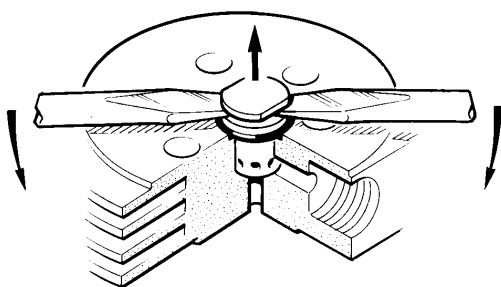

Abb. 39 Removal of 3rd stage pressure valve
- Remove two captive nuts (1) and spring-washers (2).
- Remove plate (3).
- Remove valves (4) and (7) using two screw-drivers as shown in Abb. 39.
- Assemble in reverse sequence. Position spring-washers with curved side facing upwards. Fasten nuts so that plate (3) is parallel to the valve head. Torque with 10 Nm (1 kpm).
- Unwind torque stud (1) a couple of turns.
- Remove allen screws (7), take off valve head cover (6).
- Put two screwdrivers into the groove of pressure valve body (Abb. 39). If necessary turn valve loose at first using a 13 mm spanner on the flat surfaces.
- Lift out pressure valve (3) together with O-ring (2).